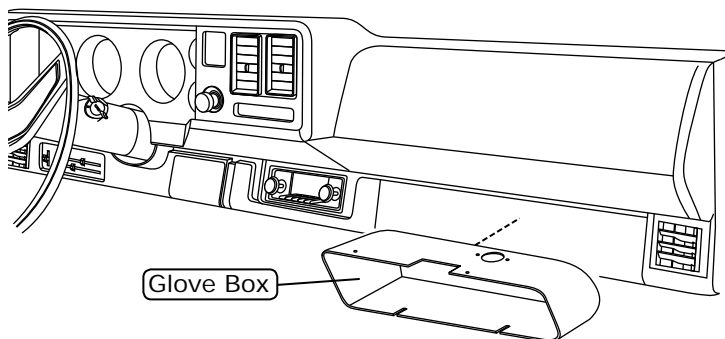

Figure 20
1. Install the supplied glove box, and secure it using OEM screws through the OEM holes (See Figure 20, below). **NOTE: If equipped with the glove box light as shown in Figure 20a, below, modify the plastic glove box using the template provided on Page 28.**